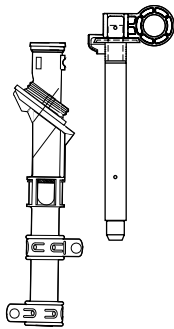

Figure 9. Silver-plated Bay-O-Net with inner fuse holder, Catalog No. 4038804B03M.
**Silver-plated Bay-O-Net with inner fuse holder. (Figure 9)	4038804B03M